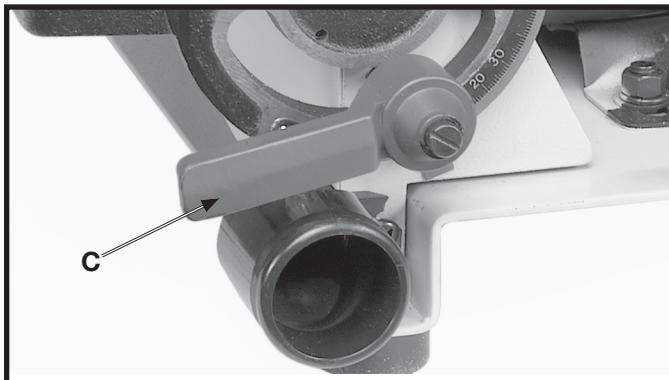

Fig. 16
- Fig. 16, illustrates the locking handle (C) assembled. **NOTE:** The locking handle (C) is spring-loaded and can be repositioned by pulling out the handle and repositioning it on the serrated stud located underneath the handle.